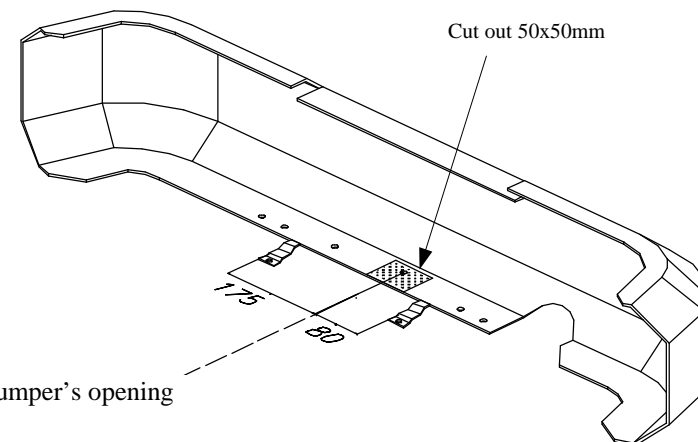

Fig. 2 Bumper's opening
3. Cut out fragment of the bumper as shown on the fig. 2.